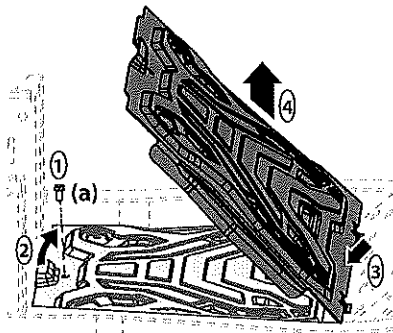

Figure 33
1. Using the multi-tool (if equipped) or a 1/2" socket, remove the hex screw (a) that secures the floor panel in place. See 1 in Figure 33
2. Carefully lift the rear of the floor panel. See 2 in Figure 33.
3. Slide the floor panel rearward to free the front of the floor panel. See 3 in Figure 33.
4. Lift it off the tractor. See 4 in Figure 33.